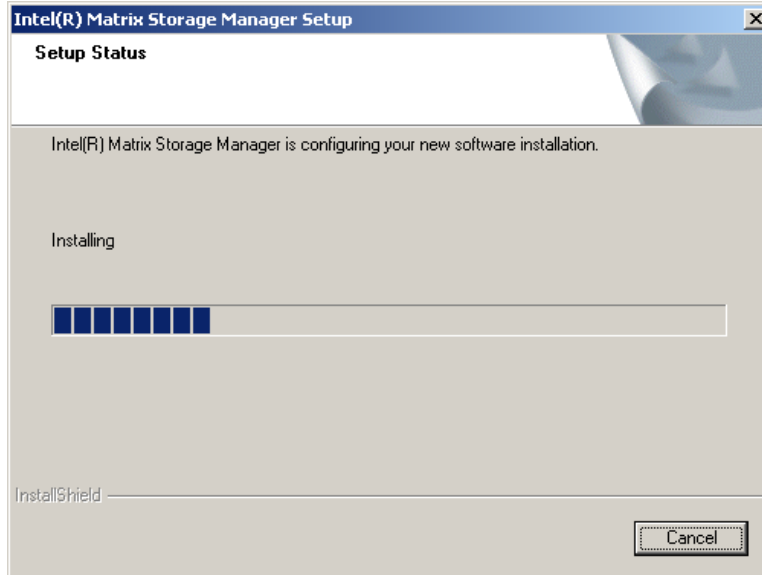

Figure 7-55: Matrix Storage Manager Setup Screen
Step 6: Figure 7-55 shows the **Matrix Storage Manager** software configuring the installation process.